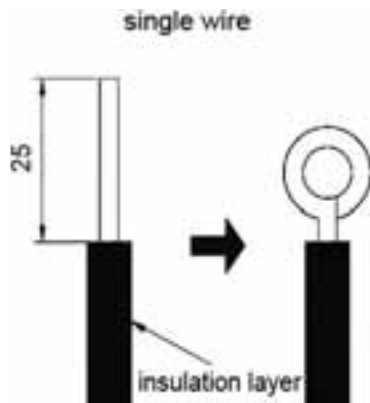

Fig. 5.1
- (1) Connect single wire (as shown in Fig. 5.1).